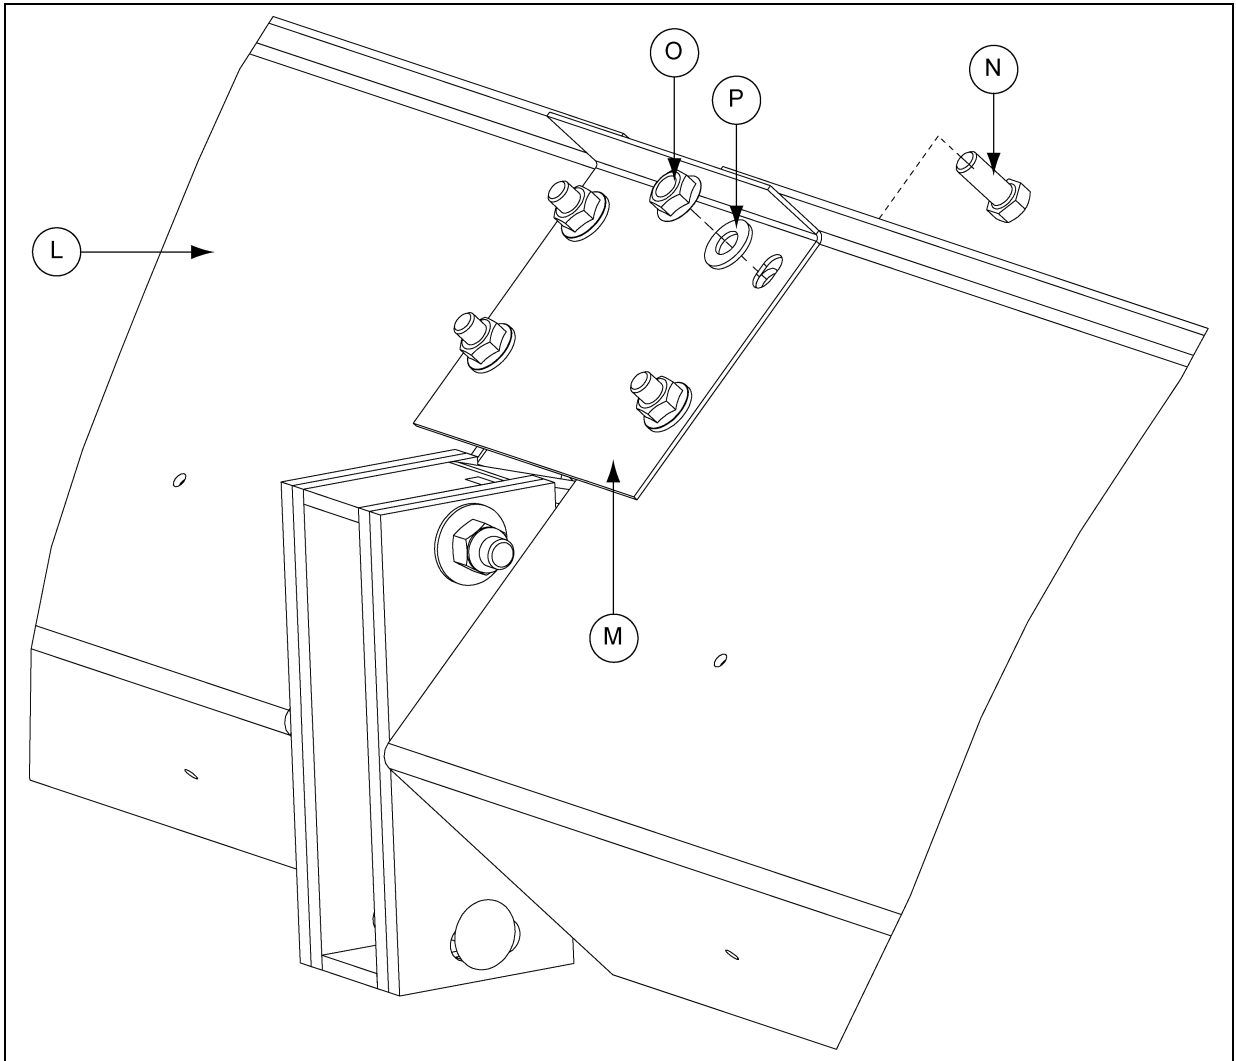

Figure 4AF
4. Install shield splice brackets to back side of flighting shields using four (4) 5/16" x 3/4" bolts, flat washers and serrated flange nuts. (See Figure 4AF.)